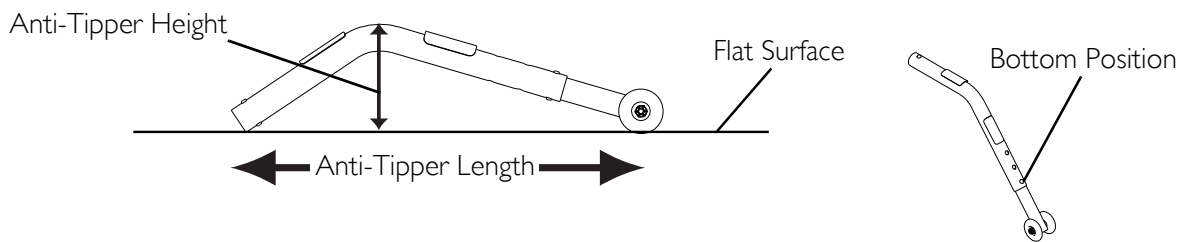
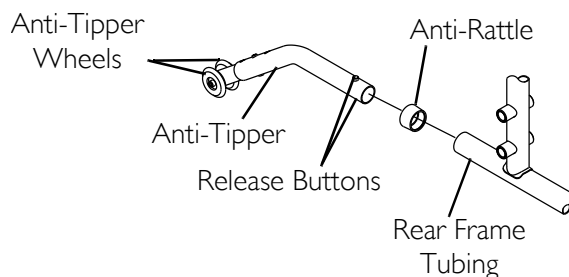

FIGURE 9.1 Installing/Adjusting Anti-Tippers - Anti-Tipper Length
FIGURE 9.2 Installing Anti-Tippers
NOTE: For this procedure, refer to FIGURE 9.1 and FIGURE 9.2 on page 42.
NOTE: To ensure the correct model anti-tipper is used refer to FIGURE 9.1. Measurements for anti-tippers are approximate and are taken with extension tube in bottom hole position.
1. Press the release buttons and insert the anti-tippers with the anti-tipper wheels pointing toward the ground/floor into the wheelchair frame tubing as shown in FIGURE 9.2.